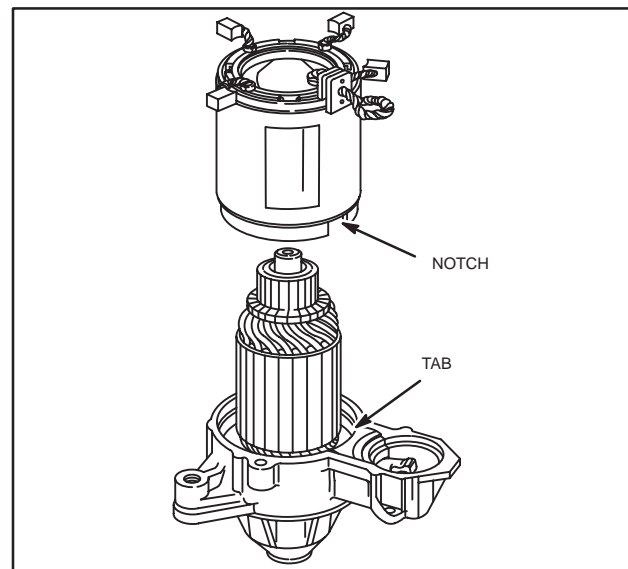

Fig. 72 – Installing Starter Housing
2. Assemble starter housing to drive housing, aligning notch in housing with tab on drive lever support, Fig. 72.